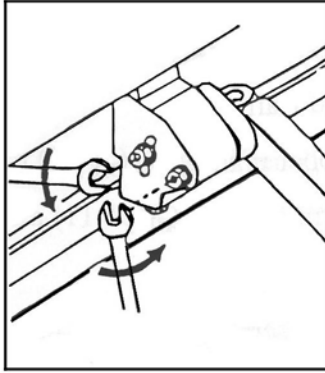
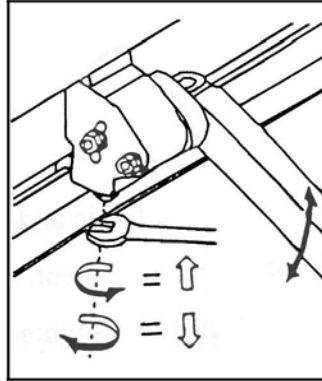
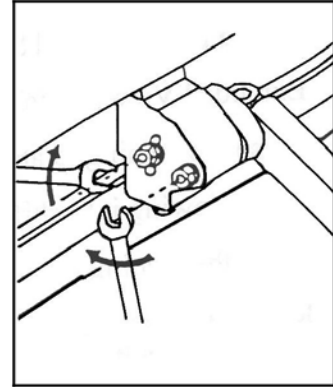

Figure 2a
Figure 2b
Figure 2c
2. At the selected turn, loosen the (2) Locknuts located at the side of the upper arm connection using a 19mm (3/4”) Open End Wrench.
4. Tighten the (2) locknuts located on the side of the arm connection.
PITCH ANGLE: The awning comes factory pre-set with a pitch angle of approximately 20°. This represents the minimum angle recommended for proper rain run-off. If it is desired to increase this angle, loosen the two (2) lock nuts located on the outside upper joint of each arm using a $\frac{3}{4}$ " or 19 mm wrench (see fig. 2a). Adjust the arms downward by rotating the bolt head at the bottom of the arm connection in a counter clockwise direction (looking from the bottom up) (see fig. 2b). Likewise, rotating the bolt in a clockwise direction will raise the arm. After all arms are adjusted to an equal height, re-tighten lock nuts on the side of each arm (see fig. 2c).